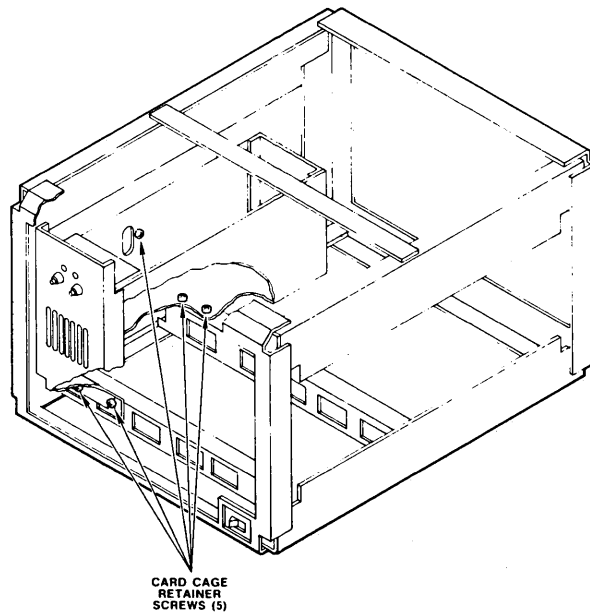

Figure 4-12. Card Cage Retaining Screw Locations
10. Remove the five screws securing the card cage to the chassis, see Figure 4-12.